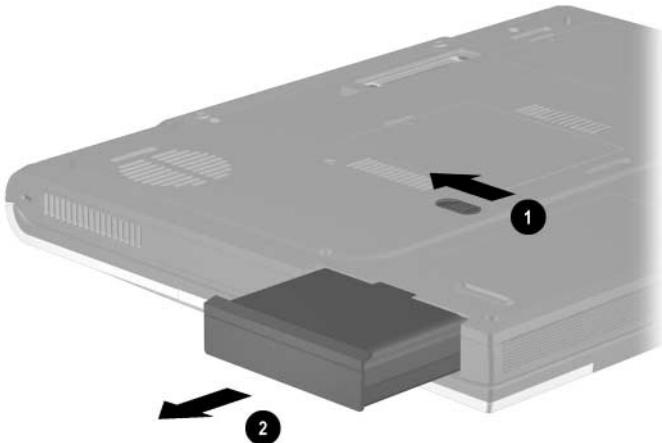

Figure 5-2. Removing the Battery Pack
- b. Slide and hold the battery release latch ① toward the back of the computer (Figure 5-2).
- c. Use the notch in the battery bay to slide the battery pack out of the battery bay ②.